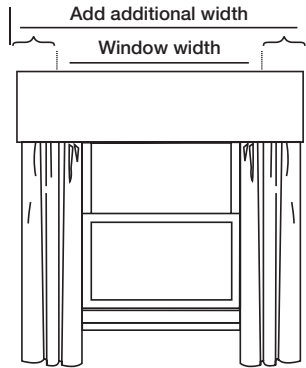

Figure 2
- 2 Add any additional width desired, especially if hanging curtain panels or sheers under cornice. Round up to nearest full inch (figure 2).